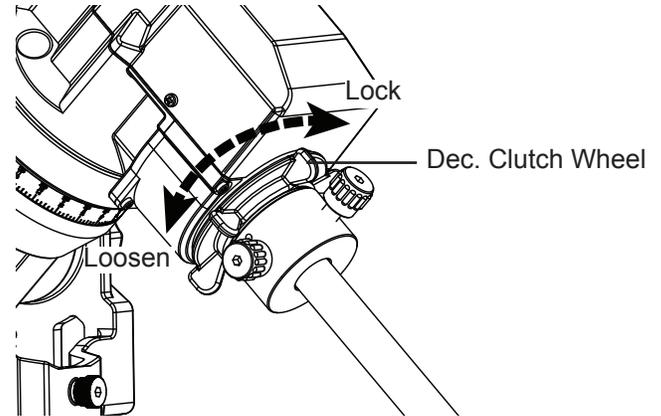

Fig. 2.1b
2. Release the Dec. clutch wheel to manually rotate the Dec. axis (Fig. 2.1b).